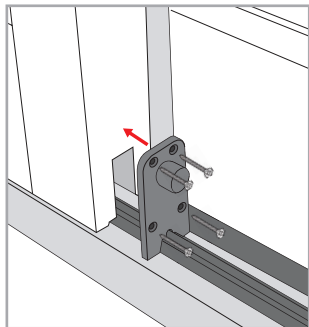

Figure 22: Bottom rail stop plate.
- Step 8** - Line up the rear side stop plate (bottom) and screw the plate in place as shown in Figure 22.